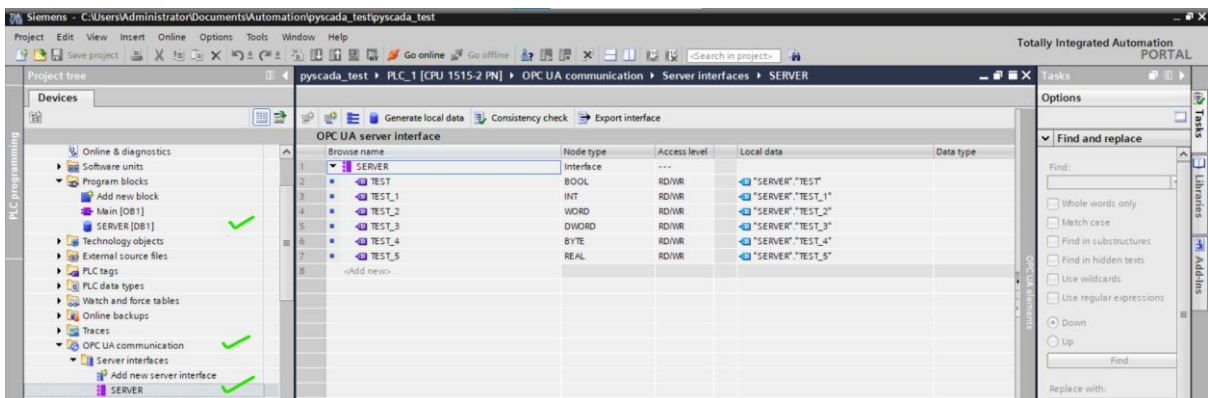

Fig:5
4. This is the Data we will be Reading for our PyScada, Create a server interface under the server interfaces, within the OPC UA Communication section(fig:5)